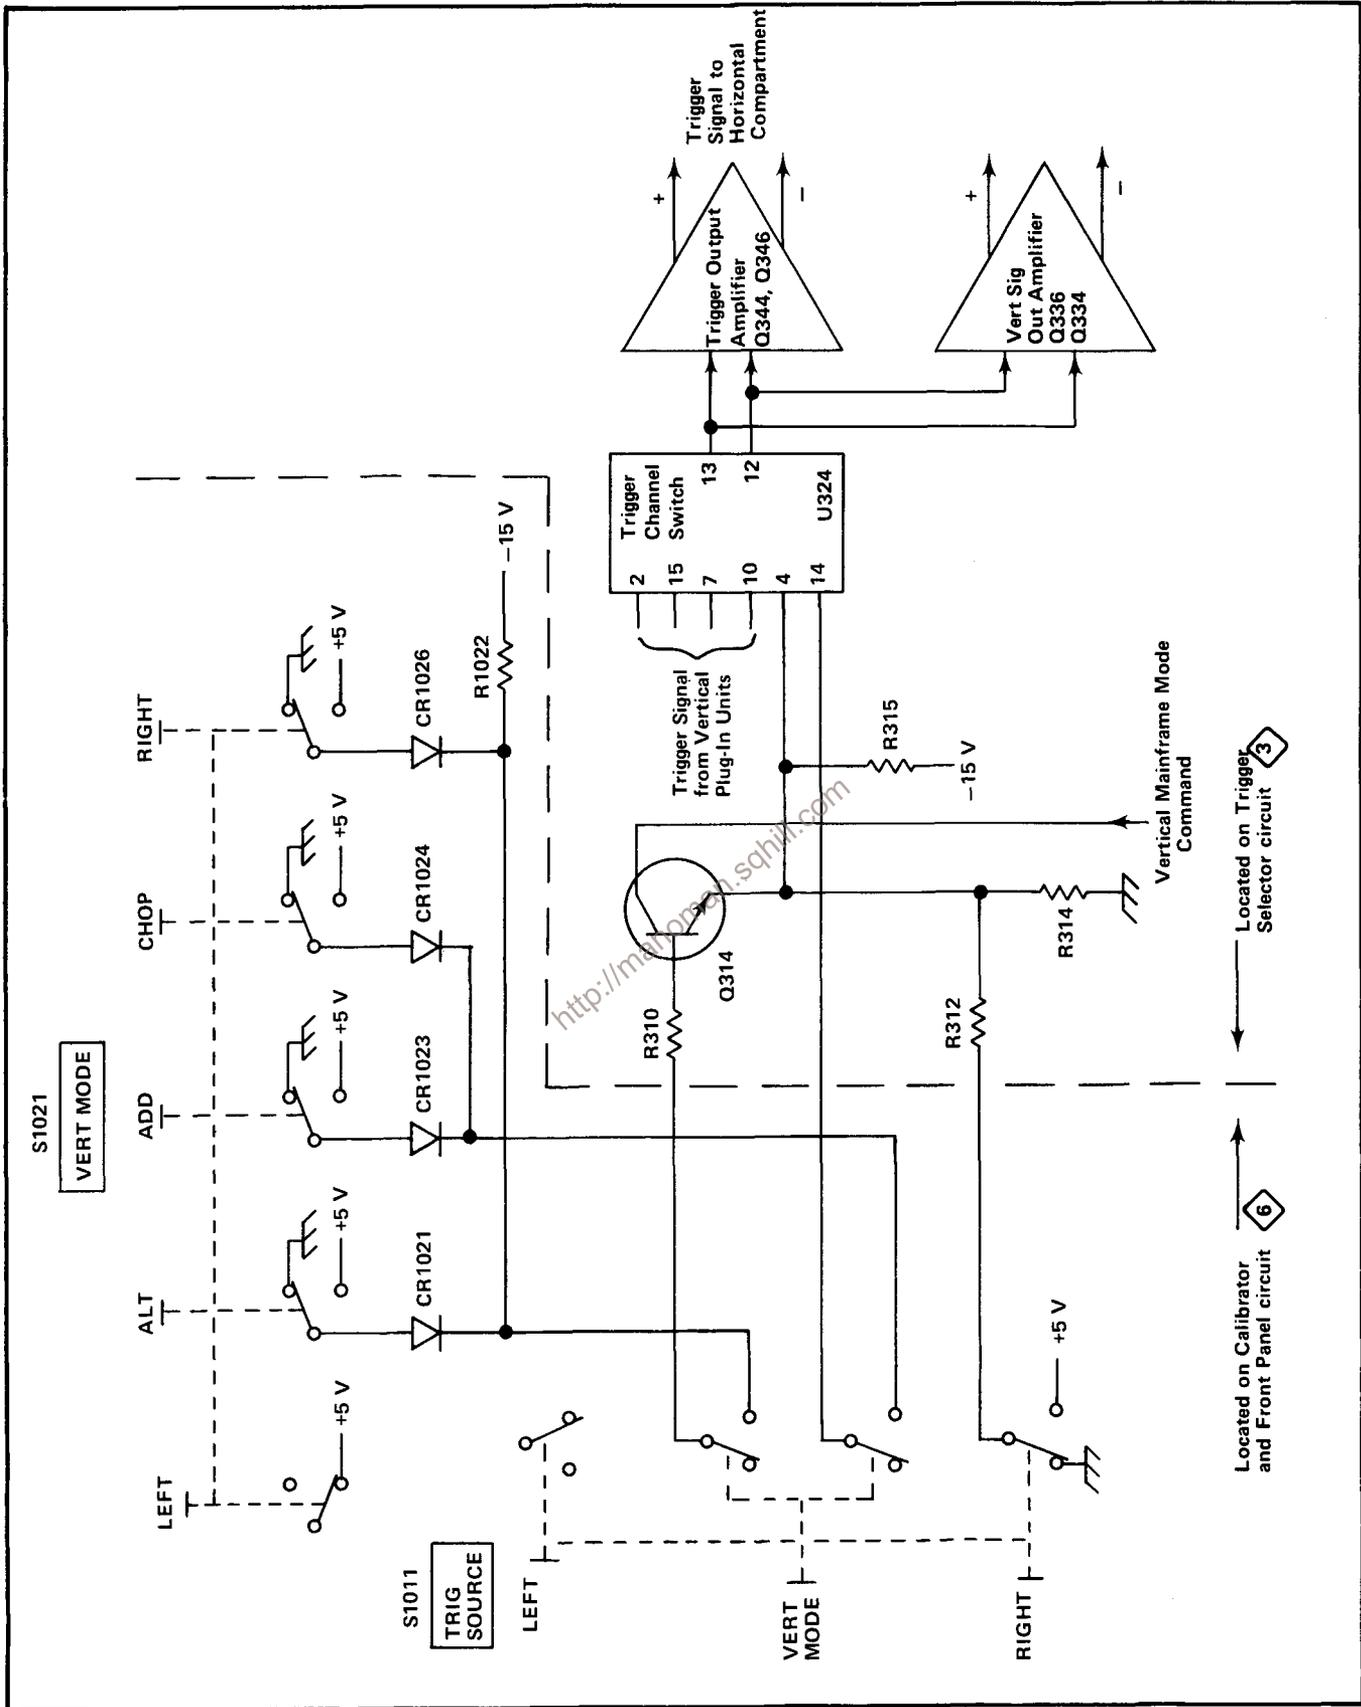

Fig. 4-13. Detailed block diagram of Trigger Selector circuit along with simplified diagram of trigger source selection circuitry.
The Trigger source switch determines which vertical signal is connected to the time-base unit, and which vertical signal, that is provided at VERT SIG/OUT connector on the rear panel. Fig. 4-13 shows a detailed block diagram of the Trigger Selector circuit, along with a simplified diagram of all the circuitry involved in selection of the trigger source. A schematic of the Trigger Selector circuit is shown on diagram 3 at the rear of this manual. Also, see diagrams 6 and 7 for the signal selection circuitry not shown on diagram 3.
**General.** The circuitry shown on the left side of the simplified diagram in Fig. 4-13 determines the operation of the Trigger Channel Switch stage. TRIG SOURCE switch S1011 controls Trigger Channel Switch U324 through Q314. When the TRIG SOURCE switch is set to the VERT MODE position, the setting of the VERT MODE switch determines the trigger selection. In the LEFT or RIGHT positions, the trigger signal is obtained from the indicated vertical unit. The following discussions give detailed operation in each position of the TRIG SOURCE switch.